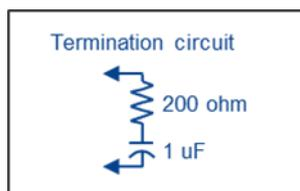

Figure 1-4 Termination circuit example
- The termination circuit of Figure 1-4 is an example using (*4). The capacitance (1uF) of the circuit is inserted for DC cut.